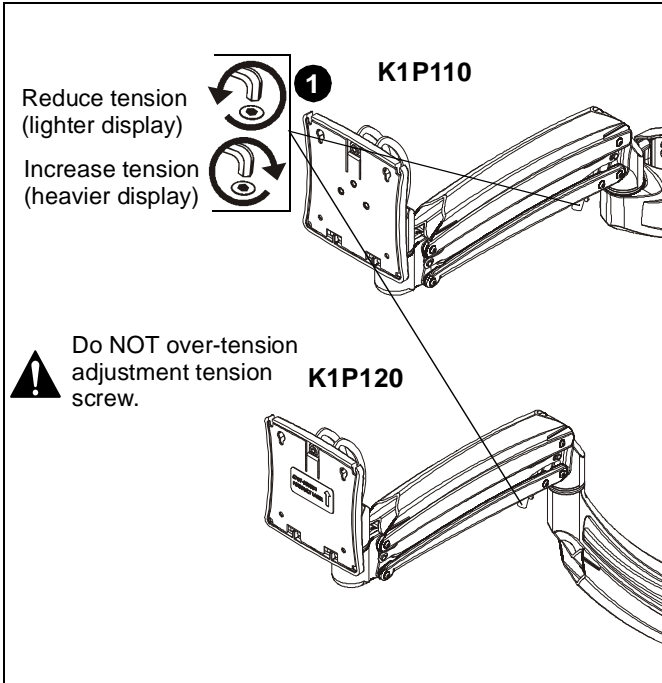

Figure 11
1. Use 3/16" hex key (L) to adjust lift arm tension adjustment screw. (See Figure 11)